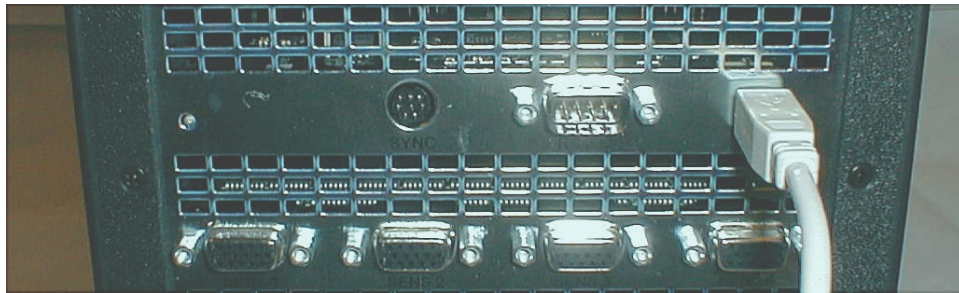

Figure 1-7: USB Cable Connection
1.2.7 Identify the USB cable and insert it into the receptacle as shown in Figure 1-7. Connect the other end of the USB cable to the host computer.